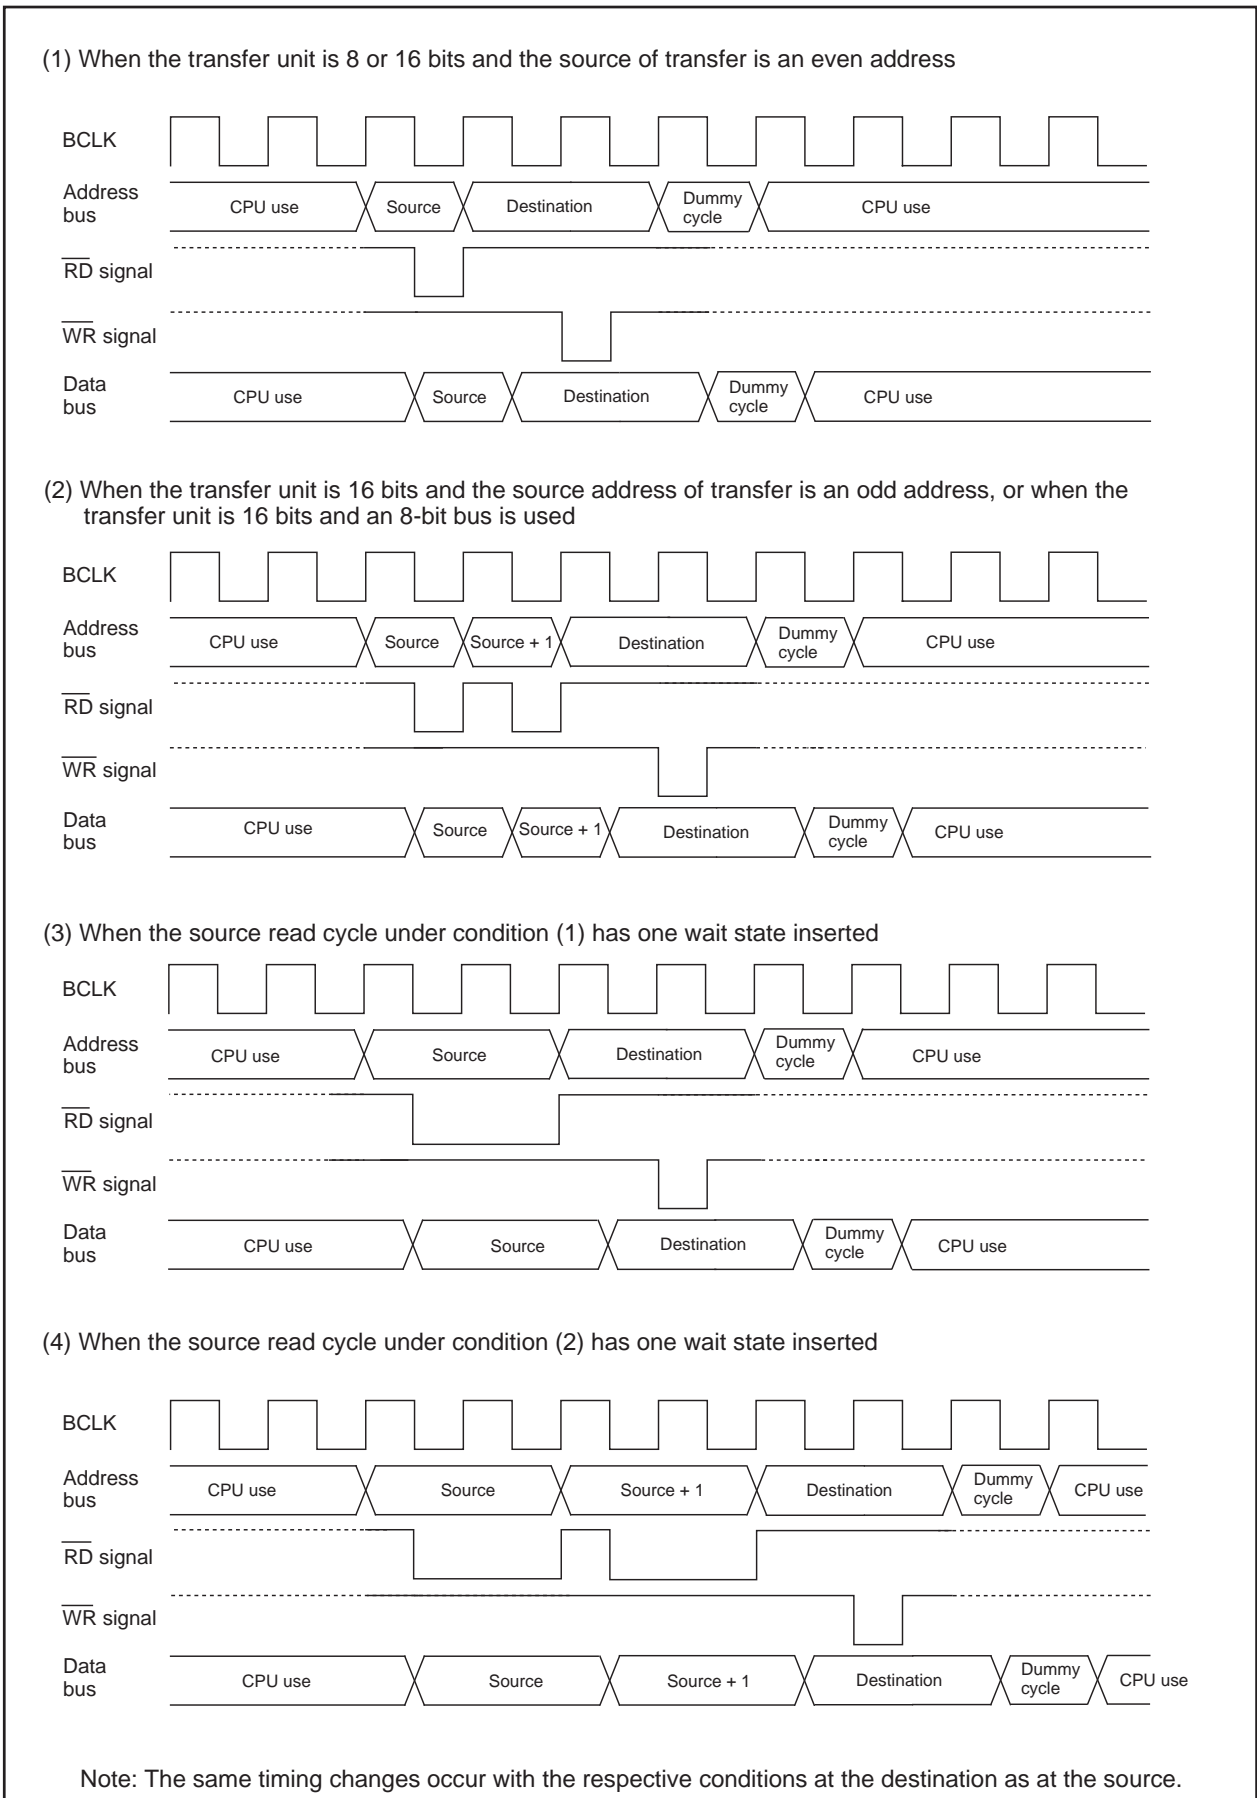

Figure 9.5. Transfer Cycles for Source Read
Figure 9.5 shows the example of the cycles for a source read. For convenience, the destination write cycle is shown as one cycle and the source read cycles for the different conditions are shown. In reality, the destination write cycle is subject to the same conditions as the source read cycle, with the transfer cycle changing accordingly. When calculating transfer cycles, take into consideration each condition for the source read and the destination write cycle, respectively. For example, when data is transferred in 16 bit units using an 8-bit bus ((2) in Figure 9.5), two source read bus cycles and two destination write bus cycles are required.